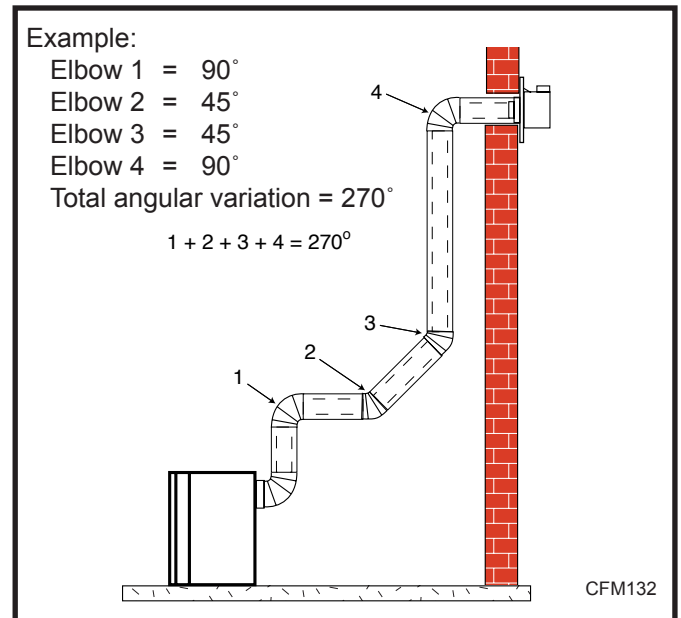

Fig. 21 Maximum number of elbow degrees.
- The maximum number of 45° elbows permitted per side wall installation is two (2). These elbows can be installed in either the vertical or horizontal run.
- The maximum number of elbow degrees in a system is 270°. (Fig. 21)